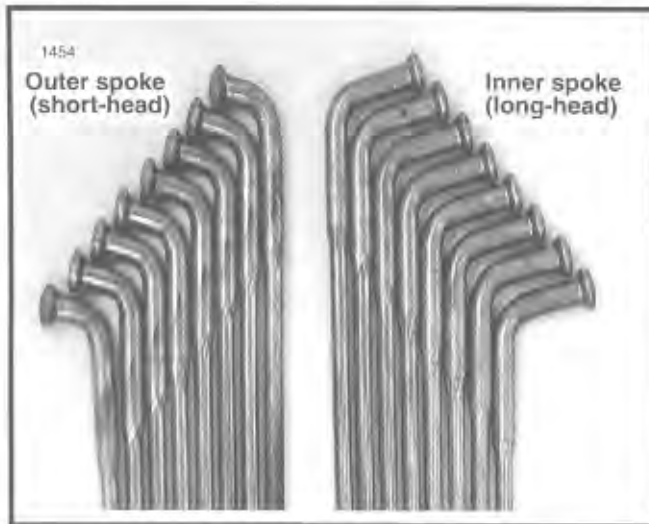

Figure 2-23. Spoke Identification
1. See Figure 2-23. Divide spokes into two groups: Inner spokes have long heads, outer spokes have short heads. There are also fine- and coarse-threaded spokes and nipples. Match up fine-threaded spokes with fine-threaded nipples, and coarse-threaded spokes with coarse-threaded nipples. Do not intermix the thread patterns.